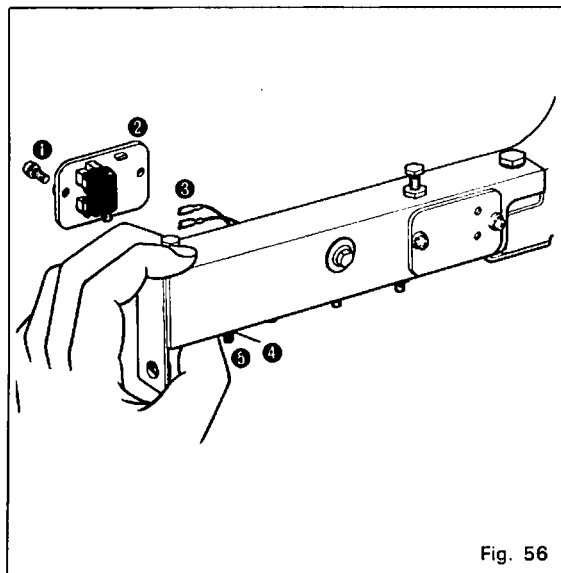

Fig. 56
- d. Detatch your finger, turn bolt 180° further and fix it by nut ④. (Fig. 56)